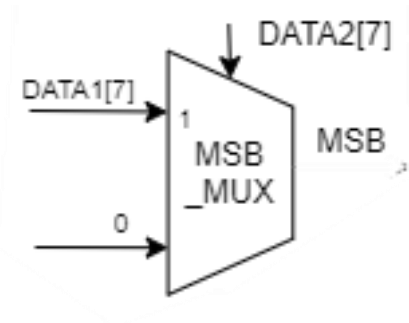

Figure 3: Circuit to get the MSB replacing bit
- The right shift is done using 5 MUX modules as shown in figures 3,4 and 5.
1. To obtain the sign of the bit used to fill the vacant bits of the right shifted value, a MUX module represented in figure 3 is used. Since the DATA2 is fed to the ALU as a negative value if the shift is arithmetic, DATA2[7] (MSB) is given as the select signal to the MUX. (DATA2[7] is 1 for arithmetic shift since DATA2 is negative)